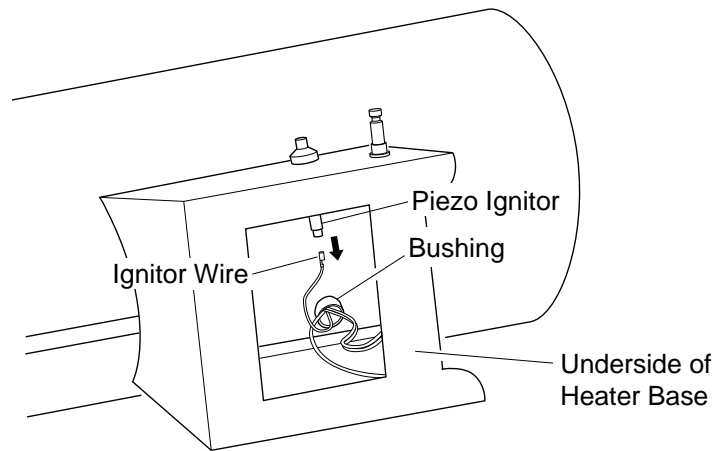

Figure 11 - Removing Ignitor Wire from Piezo Ignitor
2. Remove black ignitor wire from piezo ignitor. Access ignitor wire through underside of heater base (see Figure 11). Push wire up through bushing in heater shell.